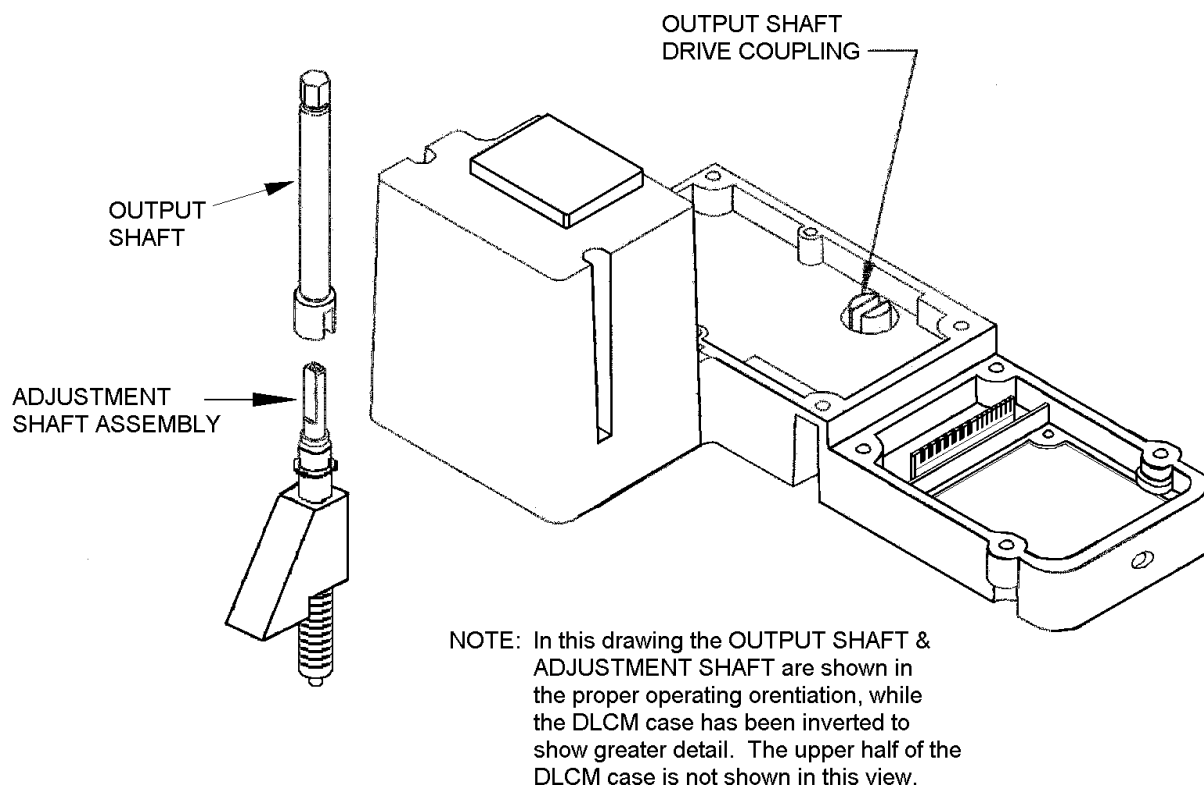

Figure 31 – DLC/Eccentric mating components
6. Note the position of the adjustment shaft 'flats'. They mate with a slot in the DLC output shaft. Familiarize yourself with these mating components prior to installation (refer to **Figure 31**).